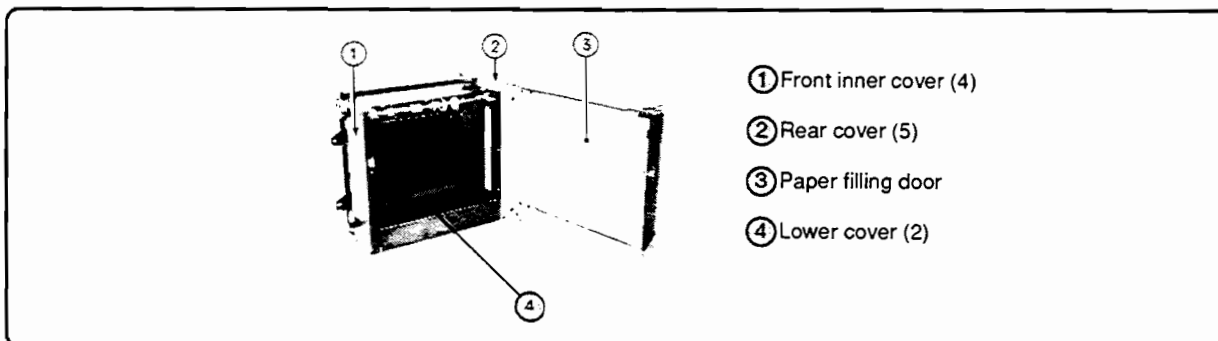

Figure 6-132. PDX Doors and Covers
Figure 6-132 shows the locations of the PDX unit covers.
3. Remove four screws and detach the front inner cover (item 1 in Figure 6-132).